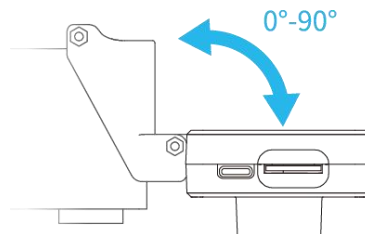

Figure 3.10 Adjust angle of AI camera
**Step 5** Adjust the angle of AI camera (range:  $0^{\circ}$ ~ $90^{\circ}$ ), as shown in Figure 3.10.